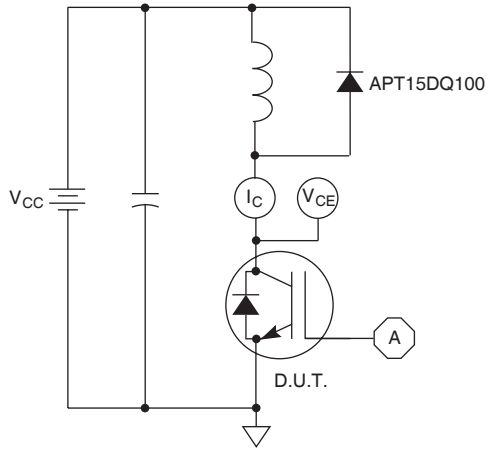

Figure 21, Inductive Switching Test Circuit
① Repetitive Rating: Pulse width limited by maximum junction temperature.
② For Combi devices, I_{oes} includes both IGBT and FRED leakages
③ See MIL-STD-750 Method 3471.
④ E_{on1} is the clamped inductive turn-on energy of the IGBT only, without the effect of a commutating diode reverse recovery current adding to the IGBT turn-on loss. Tested in inductive switching test circuit shown in figure 21, but with a Silicon Carbide diode.
⑤ E_{on2} is the clamped inductive turn-on energy that includes a commutating diode reverse recovery current in the IGBT turn-on switching loss. (See Figures 21, 22.)
⑥ E_{off} is the clamped inductive turn-off energy measured in accordance with JEDEC standard JESD24-1. (See Figures 21, 23.)